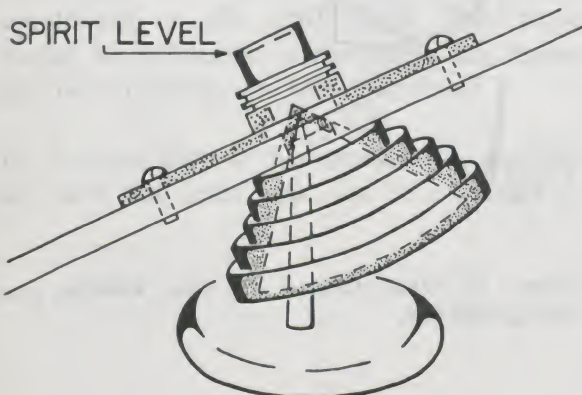

Figure 51. The static balancer suspends the disk at its center of rotation so that it can freely tilt.
2. *Place the disk on the static balancer, as shown in cross section in Figure 51. The disk will tilt because it is unbalanced.*